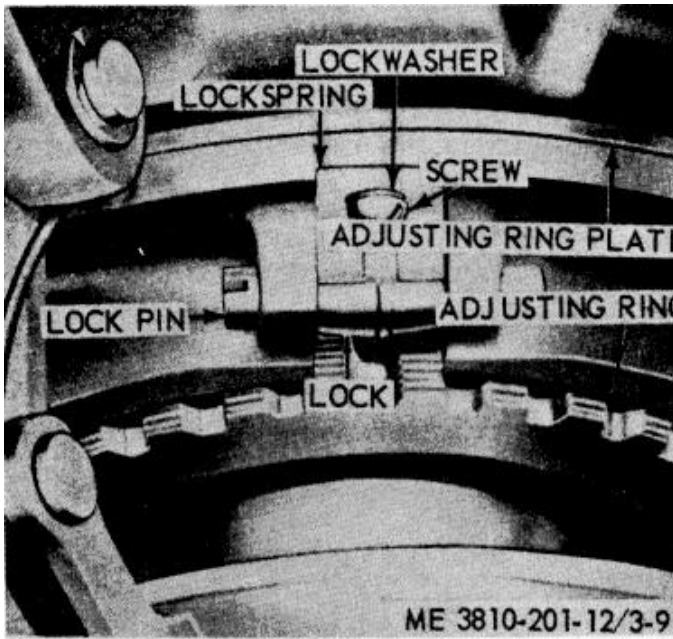

Figure 3-9. Engine clutch adjustment.
(2) Disengage the clutch (para 2-8 aq) and turn pressure plate until lock (fig. 3-9) is up.